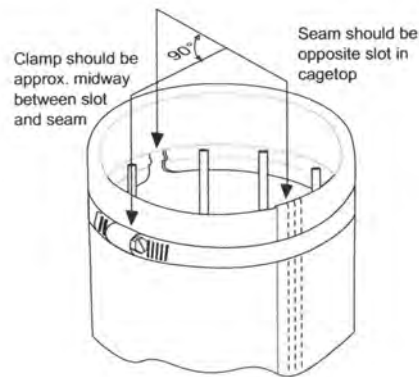

FIGURE 2
3. Loosely install a new clamp around the top of the bag/cage combination, with the clamp screw positioned midway between the gap in the roll band top and the bag seam (see figure 2). The clamp should be seated over the first groove, just tight enough to stay in place. Install a new optional felt seal around the bag cup. This seal helps prevent leakage of fine particulate.